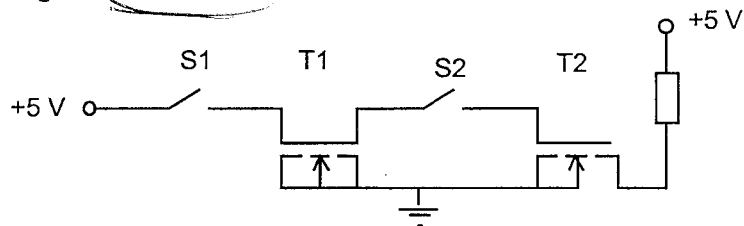

Figure 6
8. The substrate, source and drain of an n-channel enhancement MOSFET, T1 in figure 6, are all connected to earth, and the gate is used as the charge storage electrode in a 1-bit memory cell.